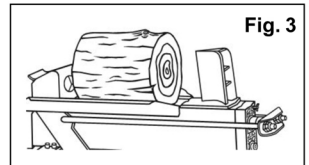

Fig. 3
- Load log between log cradles and on the tank. (Fig. 3)